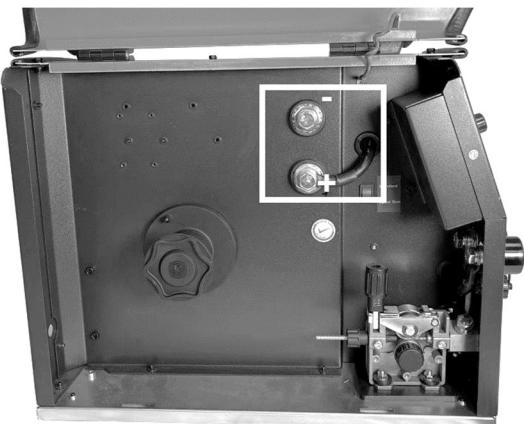

Fig. C2
- 4) Open the moving cover, (see Fig. C2) and make sure that the change polarity cable is connected to the positive pole (+).